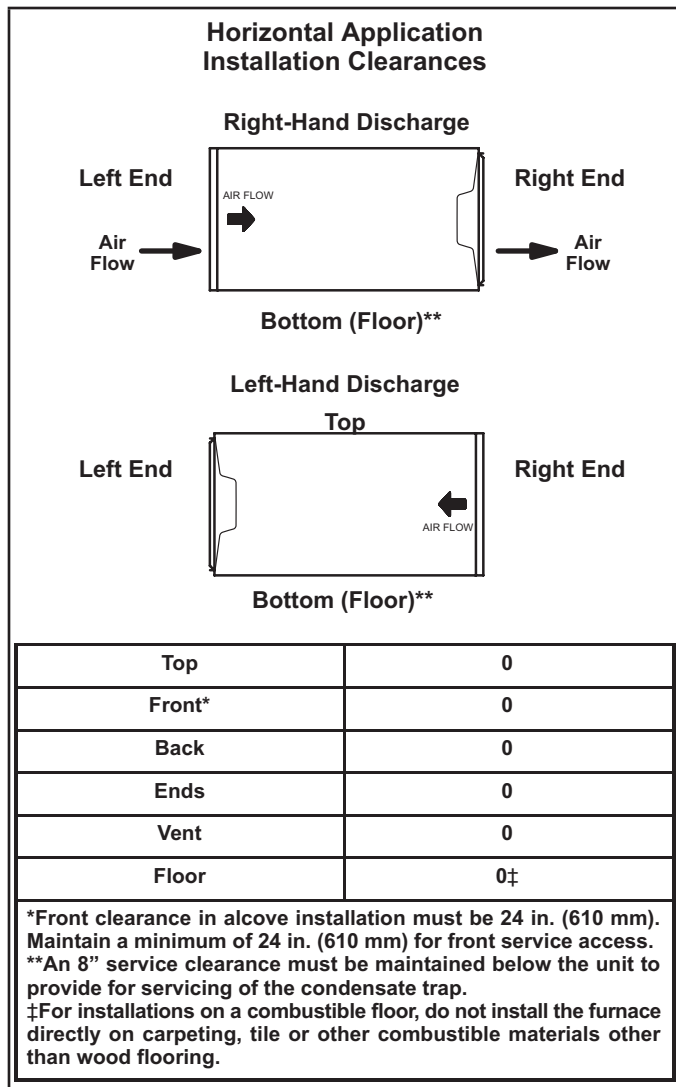

FIGURE 17
The ML193UHEK furnace can be installed in horizontal applications with either right- or left-hand air discharge. Refer to FIGURE 17 for clearances in horizontal applications.
- 1 - Select location for unit keeping in mind service and other necessary clearances. See FIGURE 17.